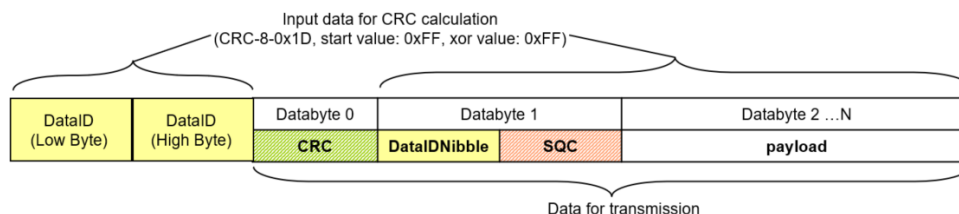

Figure 3.2. Layout of the protected message including control data (CRC, SEQ) with explicit transmission of data ID nibble (`dataIdMode=3`)
- **Explicit transmission of data ID nibble** (dataIdMode=3): Both bytes of the 16-bit data ID are attached to the safety data for CRC calculation, but the low nibble of the high byte of the data ID is explicitly transmitted. Only 12 bits are used in this 16-bit data ID and the high nibble of the high byte is set to 0. The bit-offset of the data ID nibble value within a transmitted signal group is configurable, but must be aligned with respect to nibbles. To be able to use this data ID inclusion mode together with the data ID inclusion mode **Both bytes**, the CRC is calculated over the low byte of the data ID and the high byte which is set to 0. For more information on explicit transmission of data ID nibbles, see [Figure 3.2, “Layout of the protected message including control data \(CRC, SEQ\) with explicit transmission of data ID nibble \(dataIdMode=3\)”](#).
Figure 3.2, “Layout of the protected message including control data (CRC, SEQ) with explicit transmission of data ID nibble (dataIdMode=3)” shows the layout of the AUTOSAR E2E Profile JLR with a CRC offset of 0